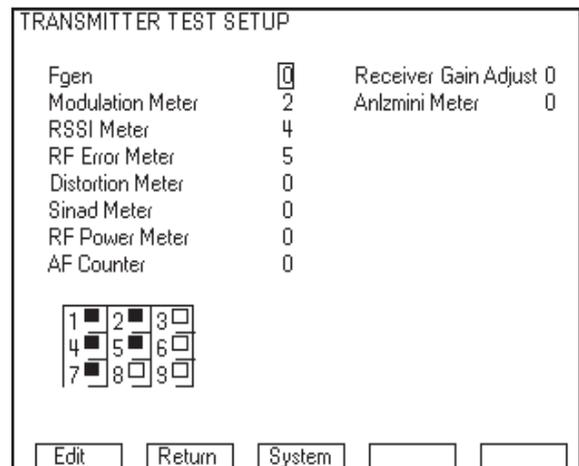

Figure 3 -TRANSMITTER TEST SETUP
7. Press the Setup softkey and the screen in Figure 3 should appear.